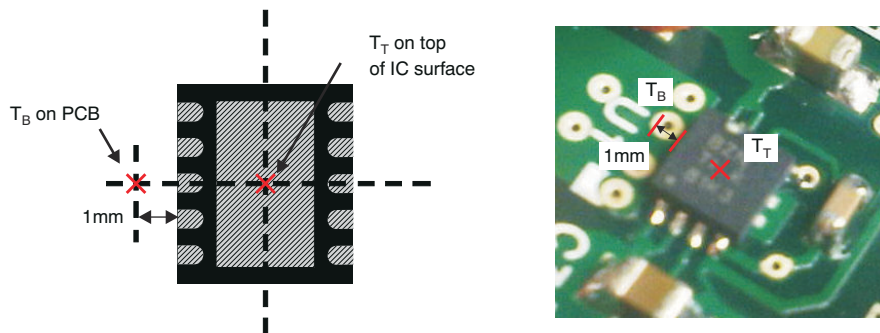

Figure 8-9. Measuring Points for T_T and T_B
- T_B is the PCB temperature measured 1mm away from the device package *on the PCB surface* (as 图 8-9 shows)